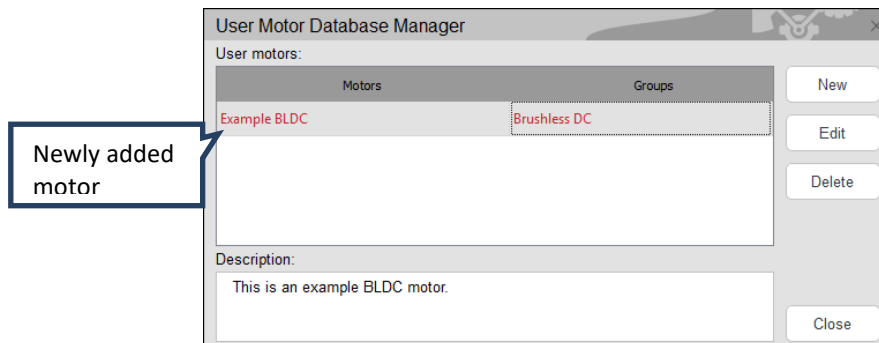

Figure 64: New Motor Added to Database
- The motor should now be displayed in the *User Motor Database Manager* window as shown in Figure 64. The selected motor appears in red text.